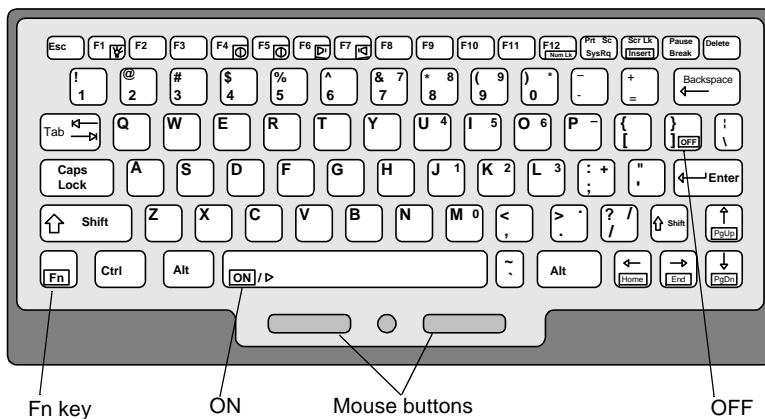

Figure 3.11 Laptop Keys
- 3 Press FN + ON and hold it for one second. The FN key is located on the bottom row in the lower left corner of the keyboard, and the ON key is located on the space bar. (See Figure 3.11).
If the computer does not start up, press and hold both mouse buttons (Figure 3.11) for at least 10 seconds. Release the buttons to restart the computer.